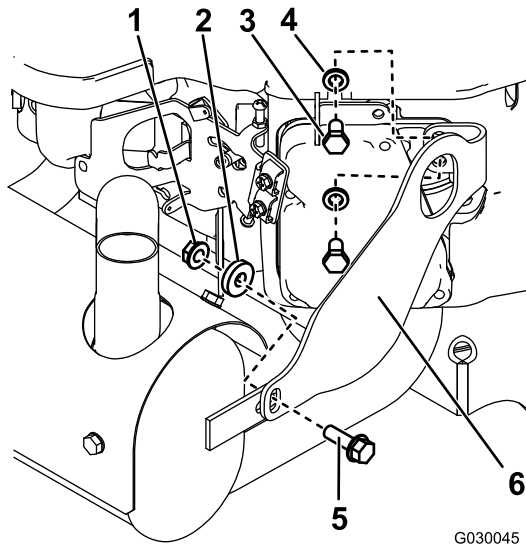
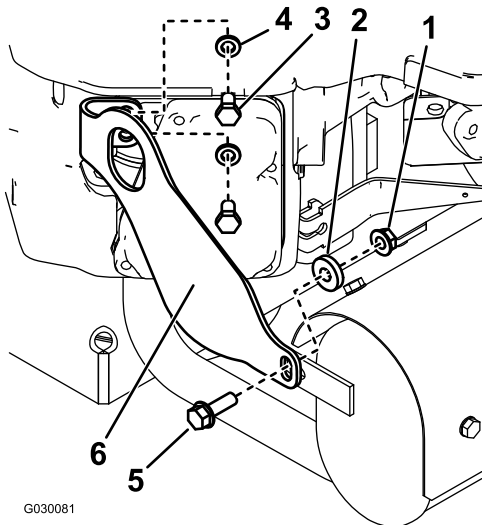

Figure 1
Figure 2
1. Remove the left bracket (Figure 1).
2. Remove the right bracket (Figure 2).
2. Install the new right bracket to the engine using 2 bolts (M8) and 2 lock washers that you previously removed (see Figure 2).
3. Install the new left bracket to the engine using the 2 bolts (M8) and 2 lock washers that you previously removed (see Figure 1).
4. Fasten the muffler to each bracket using a nut (5/16 inch), spacer, and bolt (5/16 x 1 inch) as shown in Figure 1 and Figure 2.